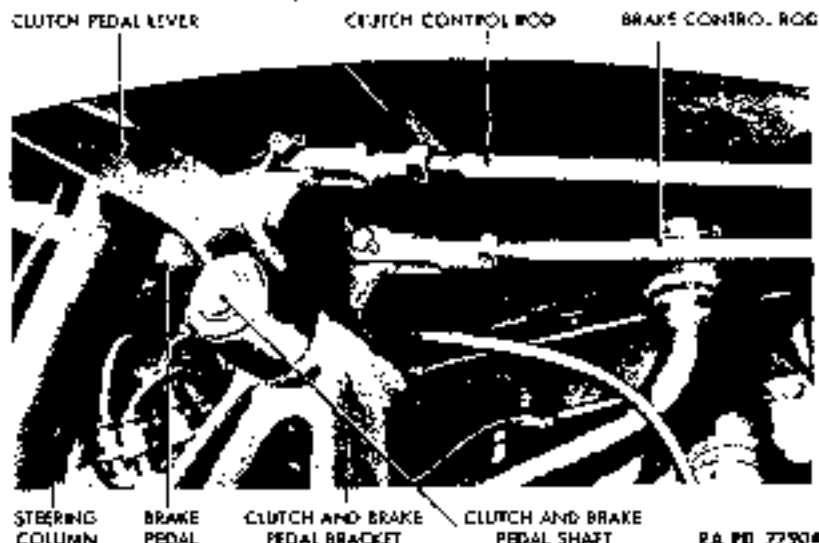

Figure 28 - Clutch, Brake Pedals, and Linkage
qq. Remove Clutch Pedal Lever, Brake Pedal Lever, and Clutch and Brake Pedal Bracket (fig. 28). Remove the 5 nuts, 10 lock washers, and 5 bolts which secure bracket to frame. Remove bracket and pedal levers as a unit.
w. Install Clutch Pedal Lever, Brake Pedal Lever, and Clutch and Brake Pedal Bracket (fig. 28). Position bracket to frame. Install the five bolts, two toothed lock washers, eight lock washers, and five nuts which secure bracket to frame.
(1) DISCONNECT CLUTCH CONTROL ROD AND CLUTCH PEDAL LEVER (fig. 28). Remove the cotter pin and clevis pin which secures rod to lever.
(2) REMOVE CLUTCH PEDAL LEVER FROM CLUTCH AND BRAKE PEDAL SHAFT (fig. 28). Remove taper pin, lock ring, and flat washer which connects lever to shaft. Slide shaft over away from clutch side, and remove pedal lever.
(4) INSTALL CLUTCH PEDAL LEVER ON CLUTCH AND BRAKE PEDAL SHAFT (fig. 28). Slide pedal shaft over away from clutch pedal side. Position pedal lever on end of shaft, and secure with the flat washer, lock ring, and taper pin.
(5) CONNECT CLUTCH CONTROL ROD AND CLUTCH PEDAL LEVER (fig. 28). Position clutch control rod to pedal lever, insert clevis pin, and secure with cotter pin.
(6) ADJUST CLUTCH (par. 59).